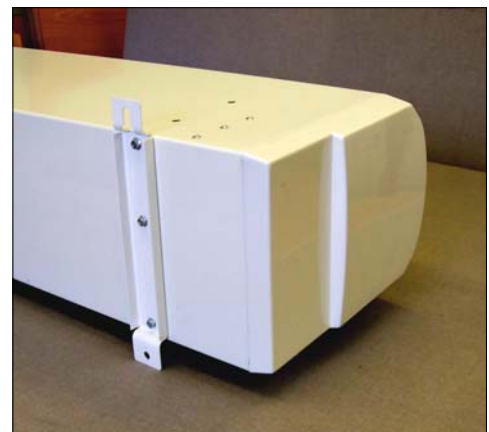

Fig 2
- Step 1** Bolt all wall brackets to the rear face of the unit as shown in Fig 2, using the M10 fixing bolts supplied.